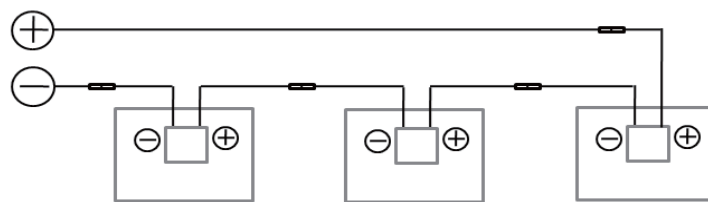
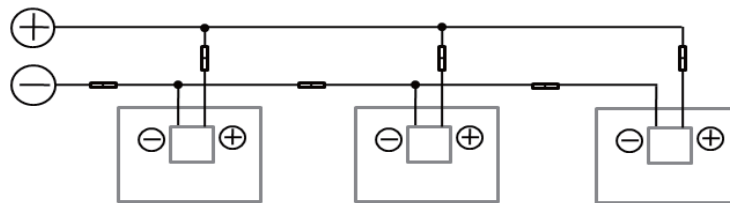
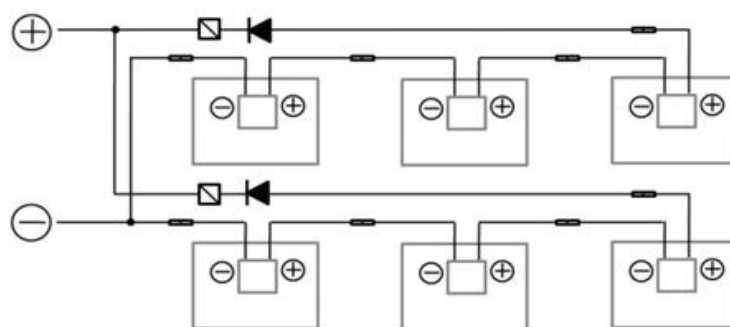

Fig. 9-1 Series Connection
Fig. 9-2 Parallel Connection
Fig. 9-3 Parallel-series Connection
- In order to ensure the normal running of the system, when connecting modules or loads, please ensure that the polarity of the cable connection is correct. If the modules are incorrectly connected, the bypass diodes and junction boxes may be damaged. PV modules can be connected in series (Fig. 9-1), in parallel (Fig. 9-2) and in series-parallel (Fig. 9-3). The number of serial or parallel connections shall be reasonably designed according to the system configuration. Also note that if the number of parallel connections ≥ 2 , there must be an over-current protection device on each string assembly.